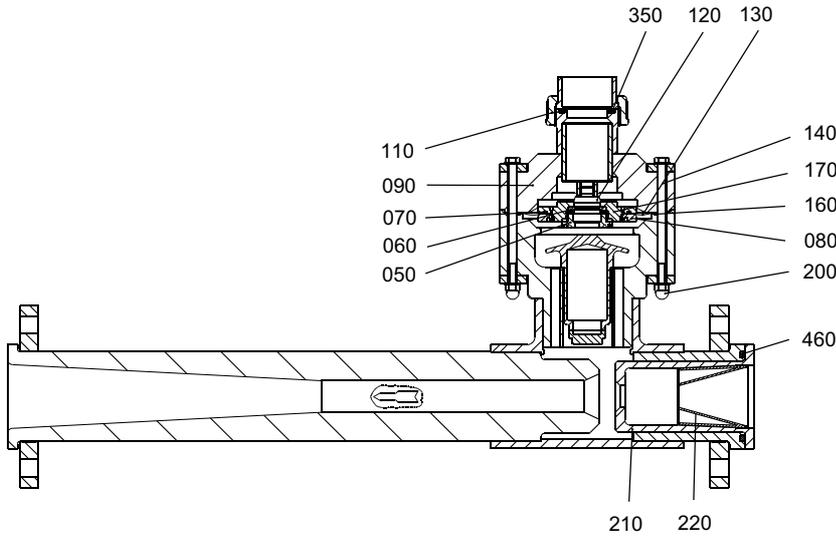

fig. 6 Assembly diagram, 545-2816 /-5816 /-2916 /-5916 /-2016 /-5016 injectors
- Unscrew the nozzle (pos 210, see fig. 6).
- Leave the swirl unit (220, see fig. 6) in the nozzle.
- Loosen the union nut (110, see fig. 6).
Replace piston (120, see fig. 6) and seat (060, see fig. 6).
- Loosen the cap nut (200, see fig. 6).
- Remove the cheese head screw (140, see fig. 6).
- Unscrew the upper part (090, see fig. 6)
- If necessary, replace the O-ring (160, see fig. 6).
- Push the diaphragm disc (pos. 170, see fig. 6) (with diaphragm, seat, screw part and O-ring) onto the piston
- Remove the upper part (090, see fig. 6).
- Unscrew the diaphragm ring (080, see fig. 6)
- Check the O-ring (070, see fig. 6).
- Remove the diaphragm (130, see fig. 6)
- Firmly tighten the diaphragm ring (080, see fig. 6)
- Unscrew the screw part (050, see fig. 6)
- Remove seat (060, see fig. 6) and O-ring